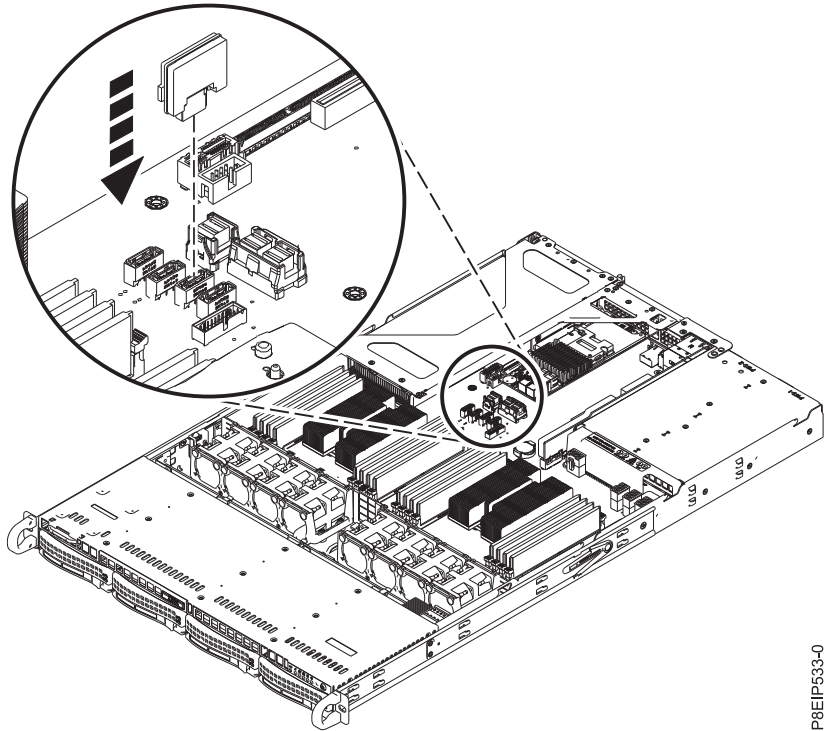

Figure 10. Installing a DOM
2. Install the DOM into the system backplane, in positions **(A)**, as shown in Figure 10 on page 14. Depending on the DOM model, you may also have to plug in a small power cord for the DOM. Ensure you plug the connectors in properly.